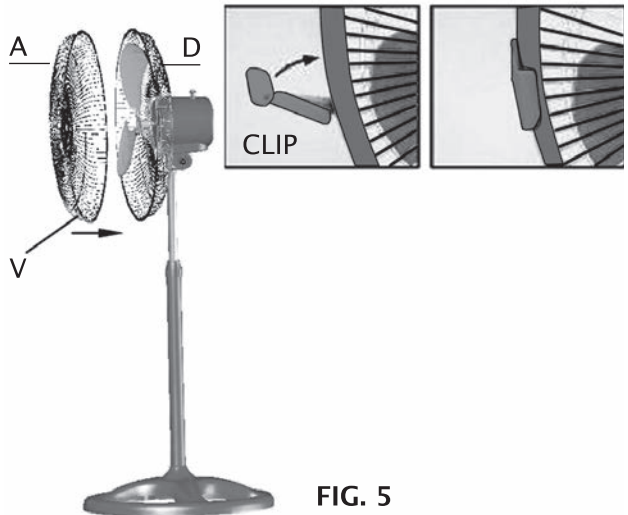

FIG. 5
(5), Position the front guard (A) on the back guard (D). Fix it with the fixing clip and with the screw and nut (V). **FIGURE 5**